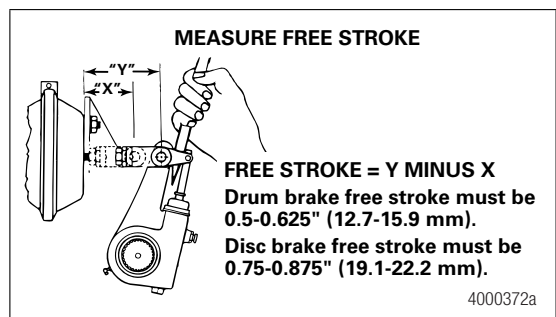

Figure 6.2
3. Measure the distance from the center of the large clevis pin to the bottom of the air chamber while the brake is released. The measurement you obtain is X in Figure 6.2.
- Use a pry bar to move the slack adjuster and position the linings against the drum, brakes applied. Measure the same distance again while the brakes are applied. The measurement you obtain is Y in Figure 6.2.
- Subtract X from Y to obtain the in-service free stroke. The measurement must be 0.5-0.625-inch (12.7-15.9 mm) for drum brakes. Figure 6.2.